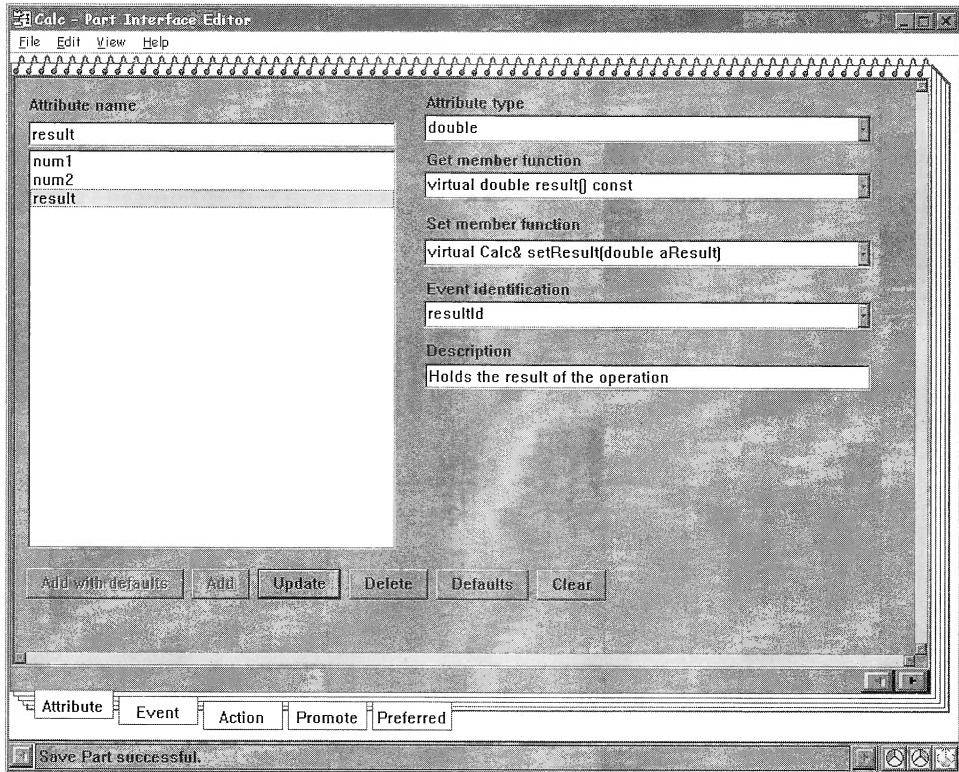

Figure 91: Attributes type changed from int to double
- ☐ Select each of the attributes and change the word **int** to **double** in the **Attribute type**, **Get member function** and **Set member function** entry fields as seen in Figure 91.